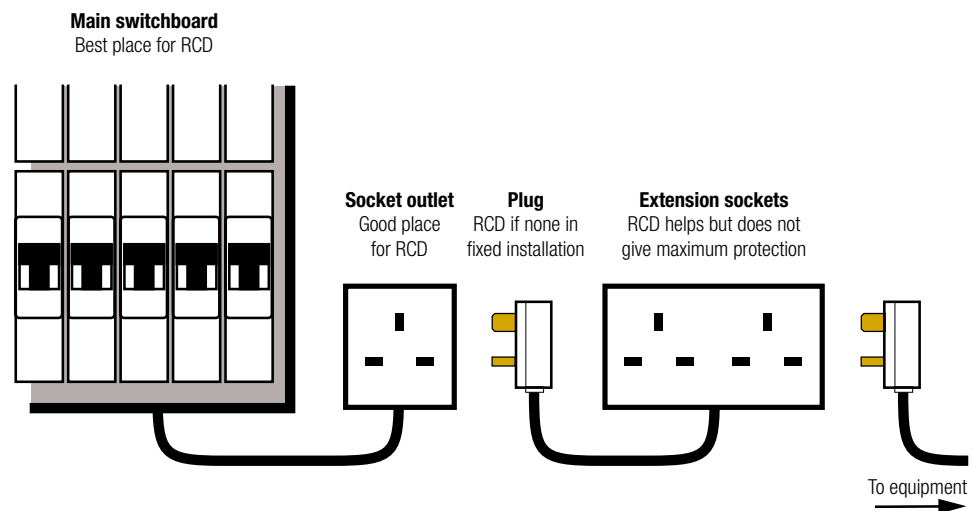

Figure 2 Where should the RCD be?
- make appropriate use of RCDs (see Figure 2);